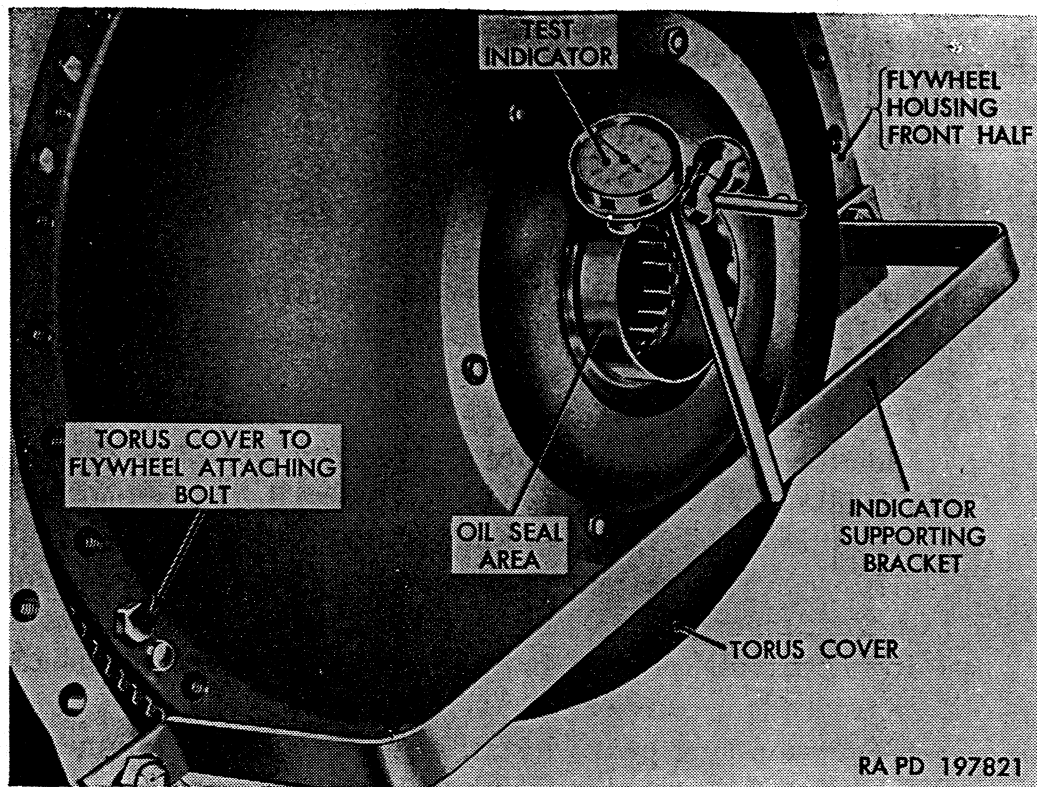

Figure 212. Checking torus cover runout, using test indicator and supporting bracket B7950331.
- (2) Attach test indicator supporting bracket B7950331 (fig. 212) to flywheel housing front half, using two  $\frac{3}{8}$ -16 x 1 cap screws.
- (3) Assemble a suitable dial-type test indicator to supporting bracket B7950331 so tip of indicator set rocker arm attachment contacts oil seal area of torus cover neck as shown in figure 212.
- (4) Turn engine and observe reading on dial of indicator. Runout must not exceed 0.005 inch.
- (5) If runout exceeds 0.005 inch ((4) above), on vehicles having same size flywheel dowels only, remove torus cover from flywheel. Remount torus cover on flywheel 180° from original